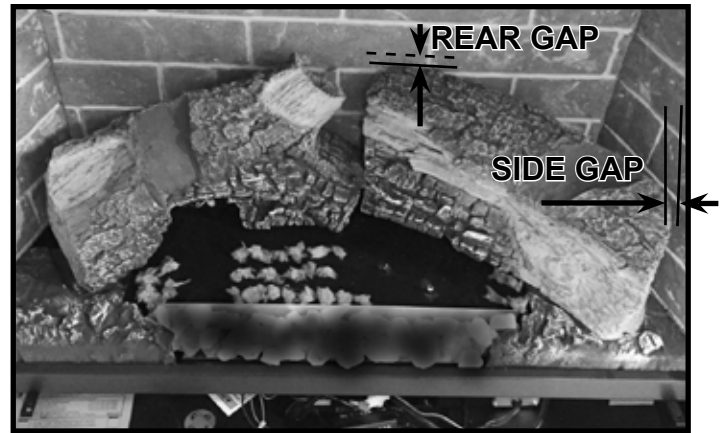

Figure 5. Rear Right Log Installed
2. Remove the large rear right log from packaging and install it by locating it on the back right log pin. On some models, it may be necessary to lift the rear left log slightly to install the rear right log. The right side of the log will reside within the indentation in the right hearth component. See Figure 5.
SL-7X and SL-9X Models: The rear right log will be positioned to contact the back wall refractory (no rear gap). There will be about a 3/4 inch side gap between the right end of the log and the right refractory panel. See Figure 5.
SL-3X Models: The rear right log will be positioned to maintain about a 1 inch rear gap between the rear right log and the back wall refractory. The rear right log will contact the right refractory panel (no side gap). See Figure 5.
SL-5X Models: The rear right log will be positioned to maintain about a 1/4 inch rear gap between the rear right log and the back wall refractory. The rear right log will contact the right refractory panel (no side gap). See Figure 5.